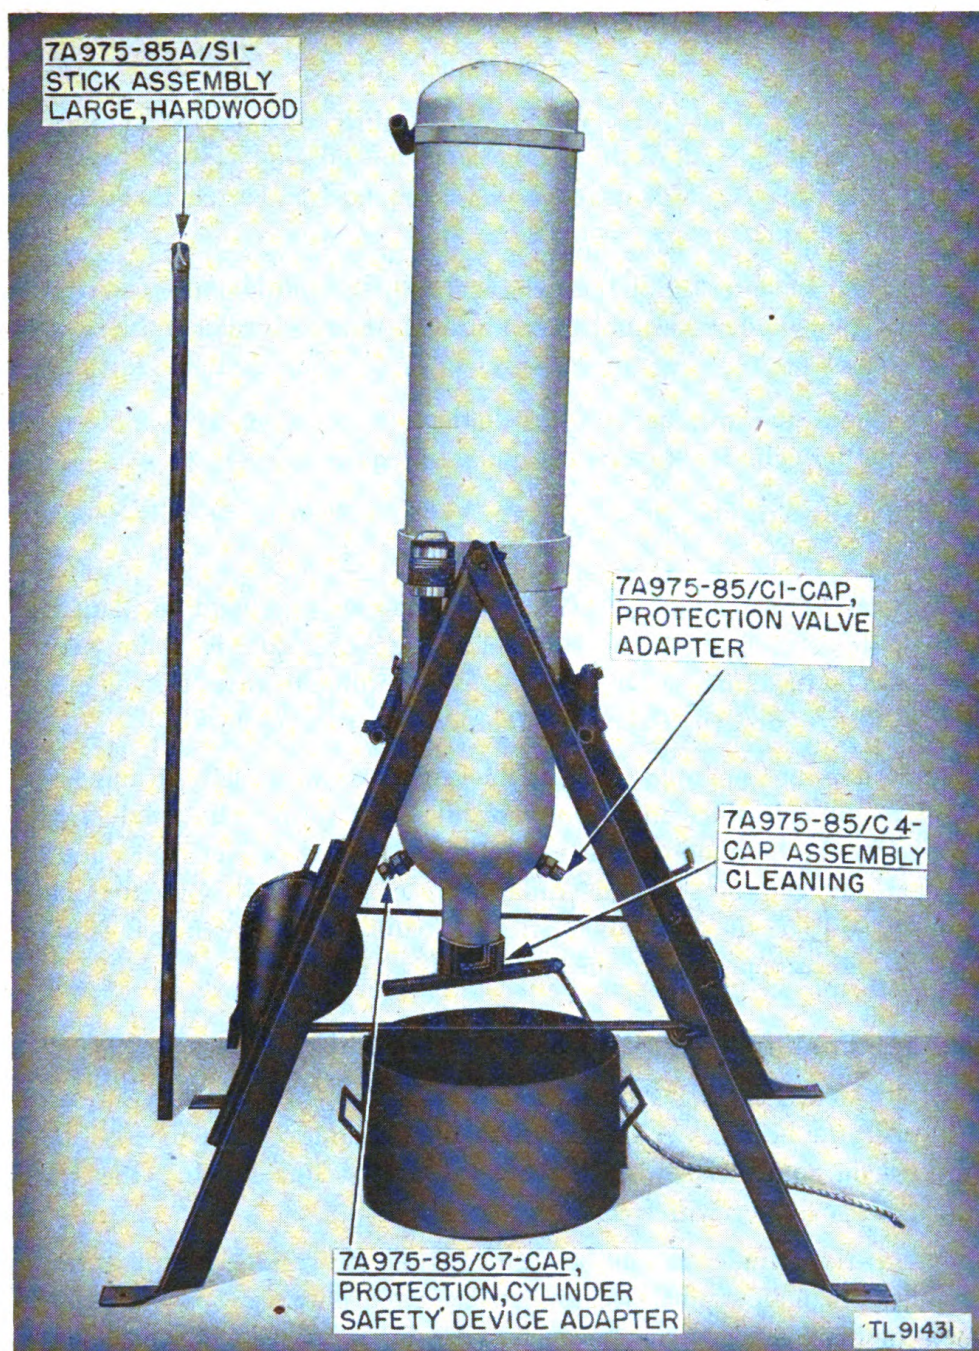

Figure 12. Generator ML-185-(*), inverted position for emptying.
h. Invert the cylinder so that the cylinder opening is directly over the bucket. (See fig. 12.) Hook the crossbars horizontally so that they hold the cylinder in the inverted position.